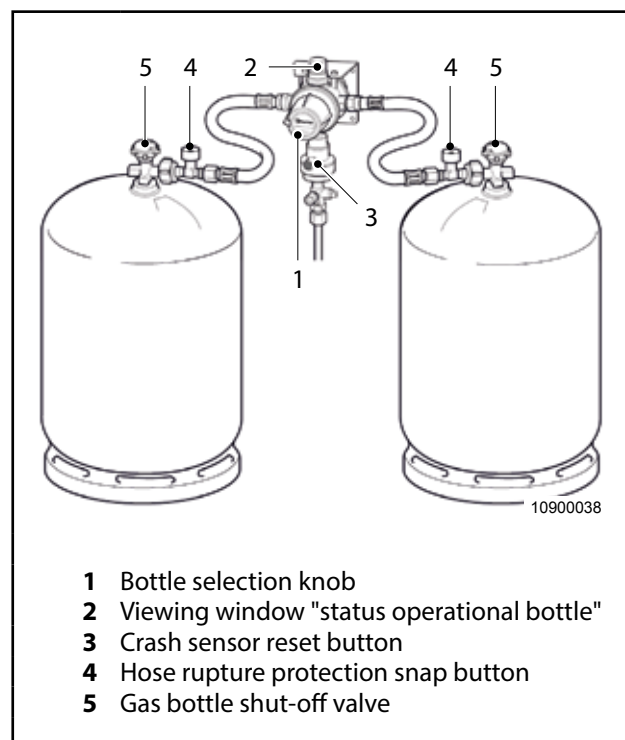
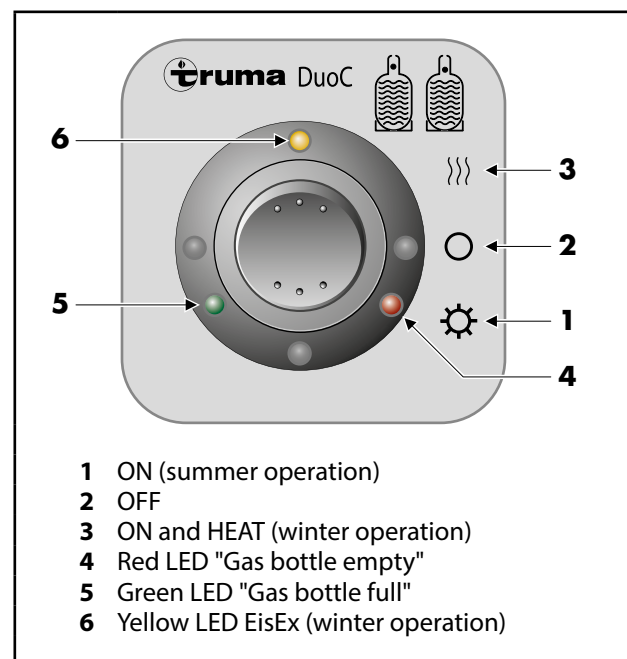

Fig. 52 Truma DuoControl CS
Fig. 53 DuoC remote display
The gas bottle to be used in operation or as spare can be selected manually with the bottle selection knob (Fig. 52, item 1).
Viewing window "status operational bottle" (Fig. 52, item 2) shows the status of the bottle being used.
The bottle specified for use with the bottle selection knob (Fig. 52, item 1) is emptied first. When the bottle in use is empty and with the remote display switched on, red indicator lamp (Fig. 53, item 4) is lit and indicates the empty operational bottle.
The gas pressure regulator set switches automatically to the spare bottle. When the DuoC (optional accessory) remote display is switched on, red indicator lamp (Fig. 53, item 4) goes out and green indicator lamp (Fig. 53, item 5) is lit and indicates the full spare bottle.
1. Open the gas bottle shut-off valve (Fig. 52, item 5).
2. Press green hose rupture protection button (Fig. 52, item 4) strongly.
3. If necessary – e.g. after initial installation or when the gas bottle accidentally strikes against the MonoControl CS – press the green reset button to reset the crash sensor trigger element (Fig. 52, item 3).
1. Turn the bottle selection knob (Fig. 52, item 1) by 180° to the spare bottle position and close the valve on the empty gas bottle. The status indicator on the remote display (optional accessory) changes to green (Fig. 53, item 5).
4. Open the valve of the full gas bottle and press the hose rupture protection snap button (Fig. 52, item 4). The status indicator on the remote display (optional accessory) changes to green (Fig. 53, item 5).
5. After connecting, switch bottle selection knob (Fig. 52, item 1) back briefly to the full gas bottle to bleed the gas system with appliances switched on.
Move the switch to the ON position (summer operation) (Fig. 53, item 1). The two LEDs (4 or 5) indicate the status of the bottle in use:
Green LED (Fig. 53, item 5) = Gas bottle full on
Red LED (Fig. 53, item 4) on = Gas bottle empty
To switch off, set the switch to the OFF position (Fig. 53, item 2).
1. Move the rocker switch to the ON and HEAT position (winter mode) (Fig. 53, item 3). In addition to the status indicator of the bottle in use, the switching valve is heated, and this is indicated by the yellow LED EisEx (winter mode) (Fig. 53, item 6).
2. To switch off, set the switch to the OFF position (Fig. 53, item 2).